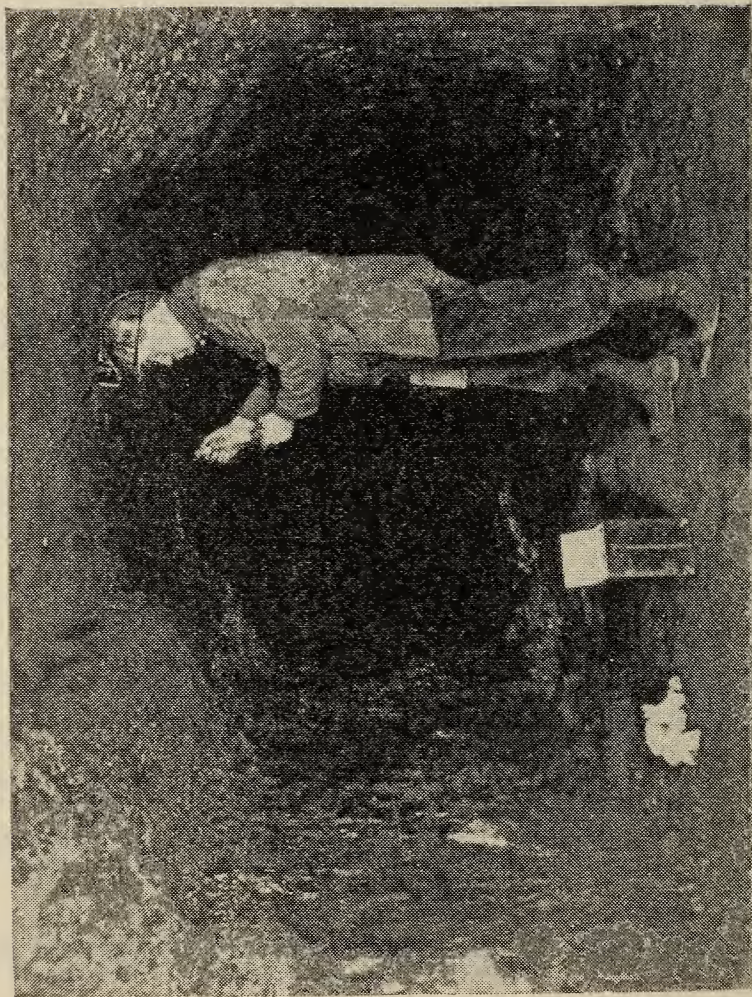

FIGURE 26.—An air sample is collected in the return airway by means of a vacuum bottle. The sample is analyzed later in the laboratory.
A. By a flame safety lamp, by the use of methane detectors and testers, and by analysis. (See fig. 26.)